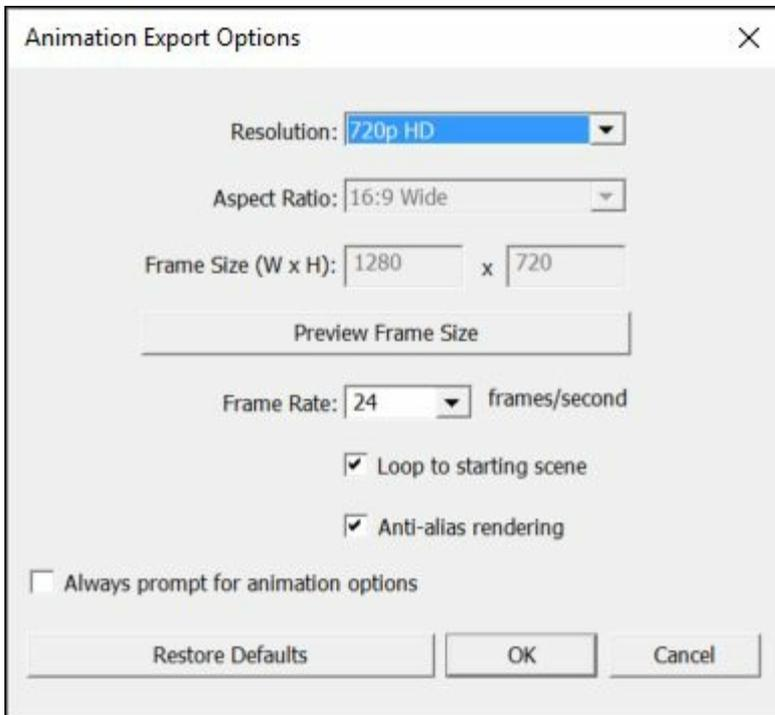

FIGURE 13-6: The Animation Export Options dialog box.
6. Adjust the settings for the type of animation you want to export. (See Figure 13-6.)
As we say earlier, digital video can be complicated. Lucky for you, you don't really have to know exactly what everything means to export the right kind of movie; you just have to know how to set up everything. The Animation Export Options dialog box (shown in Figure 13-6) is the same for each of the video file formats that SketchUp offers; here's a brief guide to the settings: